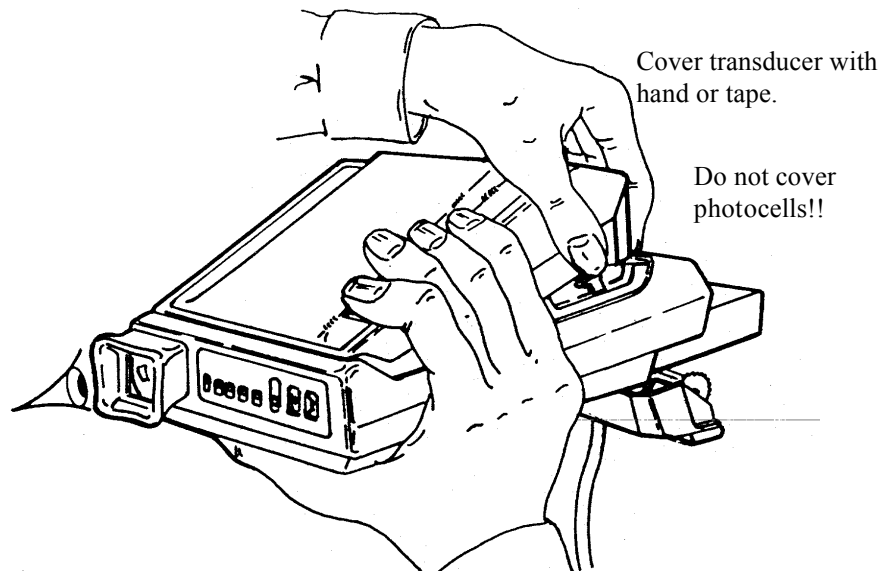

Figure 3-3 Covering the Transducer to Simulate an Infinity Exposure
10. Cover the transducer using the fingers or palm of your left hand as shown in Figure 3-3 or you can cover the transducer with photographic tape. Use care to prevent covering the photocell. Press the S10/S1 button half way down. (This simulates an infinity exposure.) The following should happen: